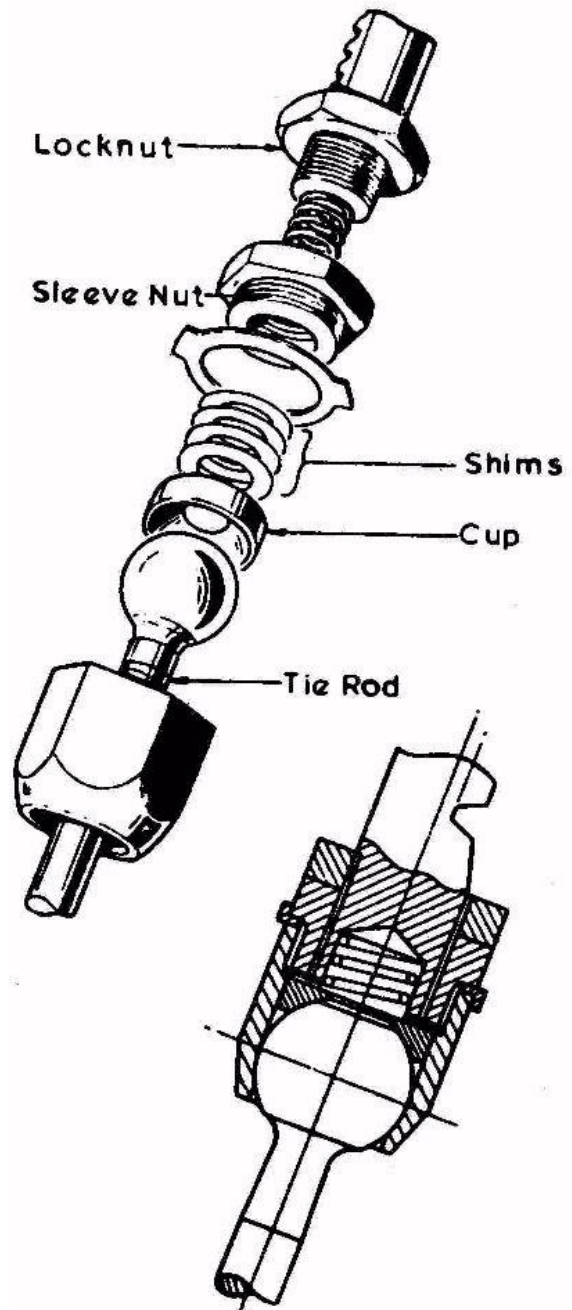

Fig. 14 - Tie-Rod Coupling Details.
3. Prepare a shim pack in excess of the estimated ball movement and insert this in the cup nut behind the nut (Fig 14).